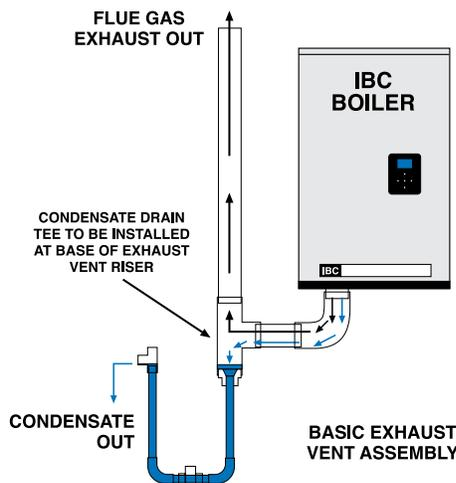

Figure 2: Basic exhaust vent assembly
- For CPVC (and in the USA only, PVC) systems a 2" CPVC (USA: 2" PVC allowed) threaded adaptor or 90° elbow adaptor. A condensate trap formed using the supplied fittings shall be considered part of the exhaust and installed near the base of the boiler (see Figure 2).